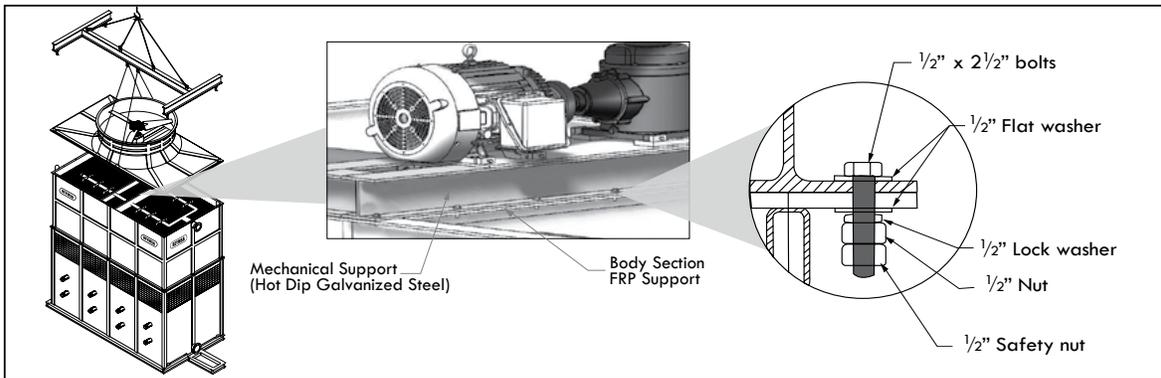

Figure A-31: Fan duct assembly for HFC-F models
M. After The Fan Deck has been set in place, proceed to bolt down the Hot Dip Galvanized Steel mechanical support to the Body Section FRP support inside of the Fan Deck Section (see figure A-31).